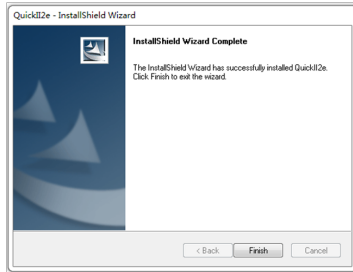

Fig 1.7
6. Enter into the “InstallShield Wizard Complete” screen as shown in Figure 1.7 and click “Finish” with the left mouse button to end the entire installation process.